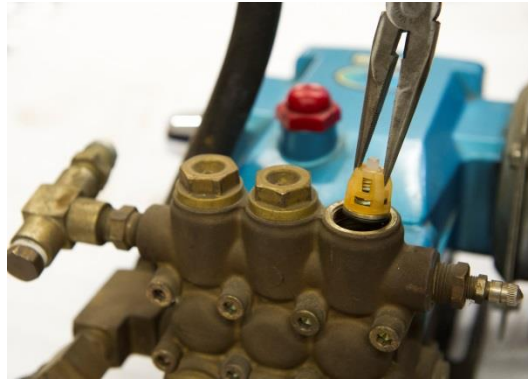

Figure 18: Removing the valve assemblies
- Using a needle-nose pliers, remove the valve assembly from the cavity (see Figure 18).